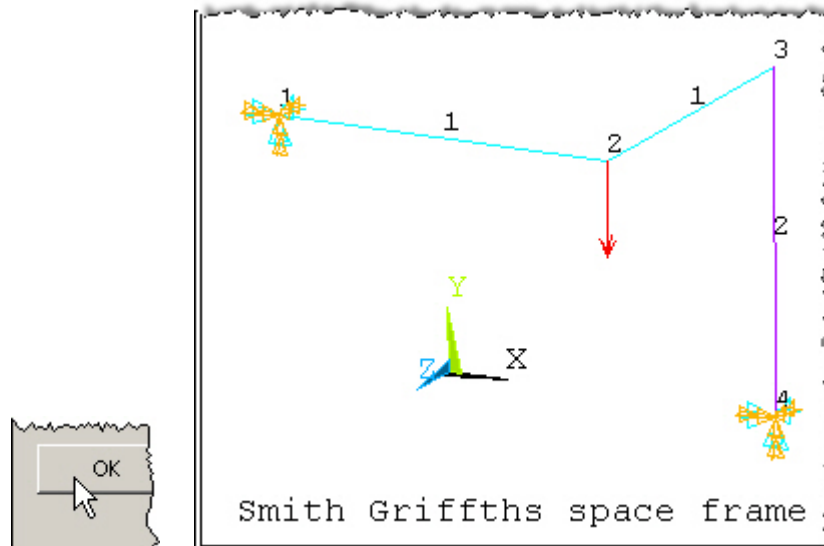

Figure 22 Loaded node's force arrow(s) appear
4. Then the arrows representing the load should appear as in Figure 22.